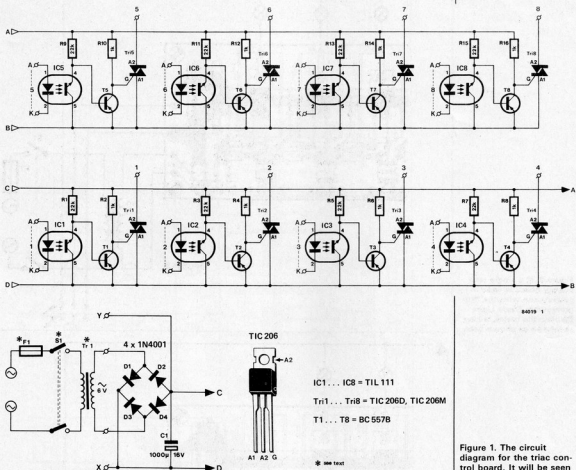

Figure 1. The circuit diagram for the triac control board. It will be seen that all eight channels are identical.
Figure 1. The block diagram here shows the main parts of the circuit and gives an indication of its operation. The speed of the engine is sensed and compared with a reference value and this information is used to determine whether the fuel cut-off valve for the idling jets should be opened or closed.
The basic operation of the circuit can be seen from the block diagram of figure 1. A signal is picked up from the c.b. (contact
As will be seen from the diagram of figure 1, the circuit is very simple with each channel consisting of an opto-isolator, a driver transistor, and a triac. The LED in the isolator is driven from the control circuit. In the quiescent state, that is, when the LED is not lit, the transistor in the isolator is effectively open circuit. The driver transistor is then held hard on by the base current derived via the base resistor connected to the negative supply line C (A). In this condition the gate of the triac is held to the 'zero' line D (B) and the triac therefore cannot fire.